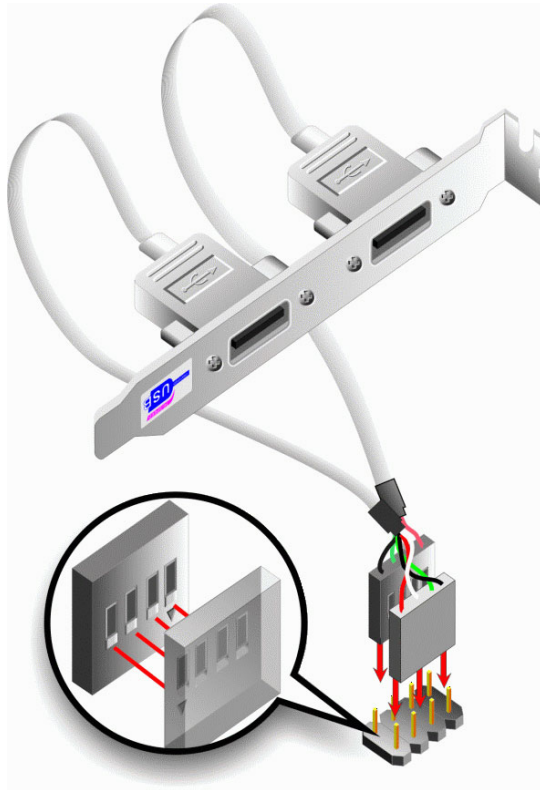

Figure 5-15: Dual USB Cable Connection
Step 3: Insert the cable connectors. Once the cable connectors are properly aligned with the USB connectors on the 2808130, connect the cable connectors to the on-board connectors. See **Figure 5-15**.